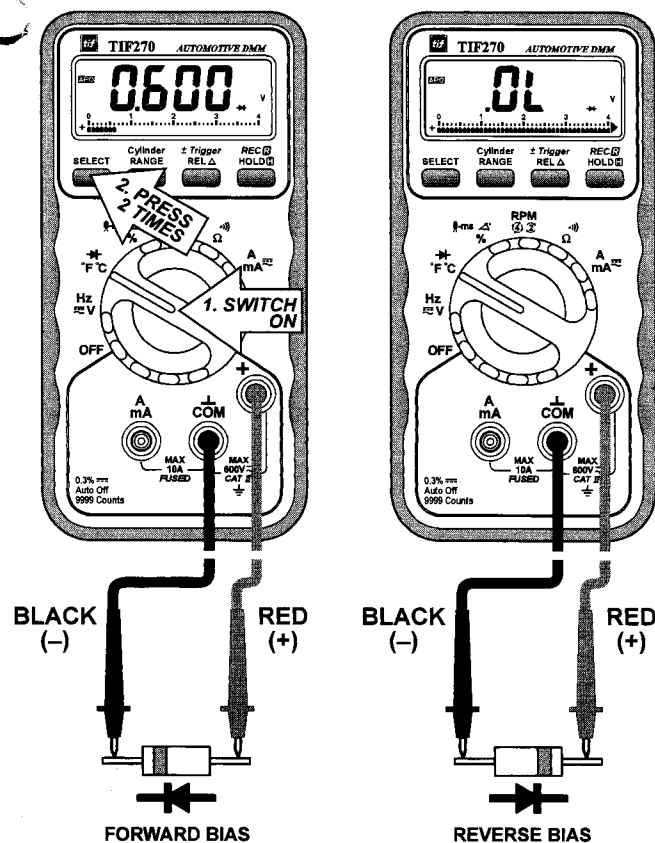

FIG 5. ➔ DIODE TEST FUNCTION
- 4) Connect the test leads as shown in **FIG 5** and observe the digital display